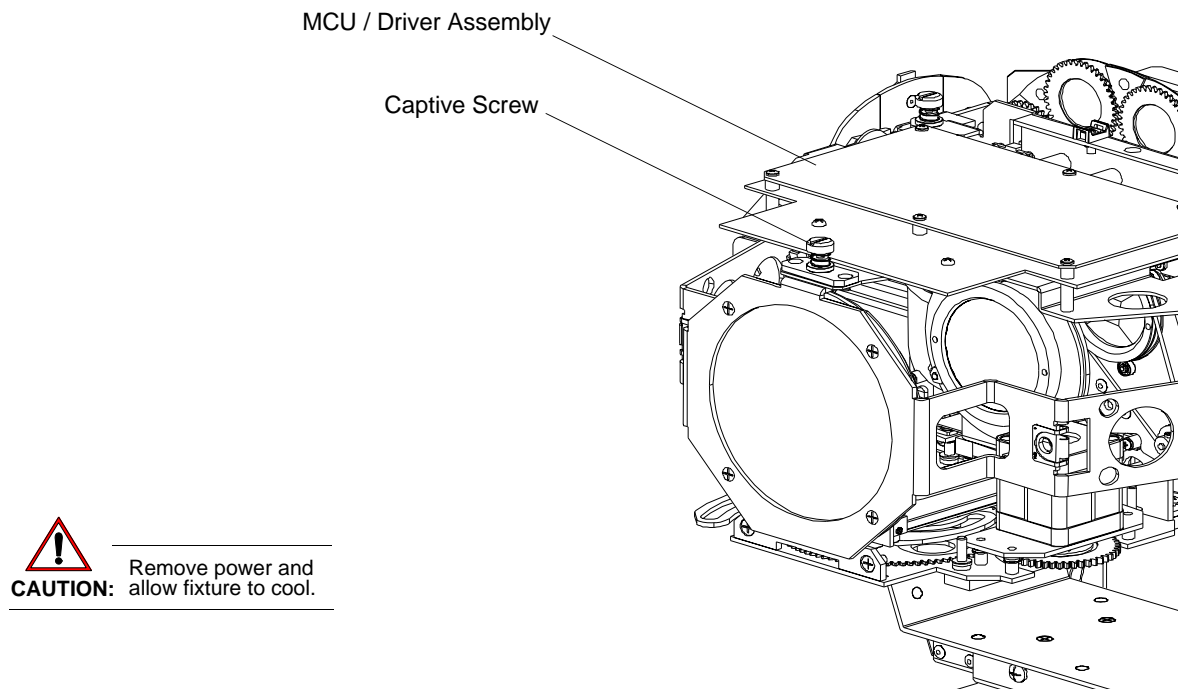

Figure 2-8: MCU Assembly Captive Screw
- Step 5. As indicated in Figure 2-8, loosen captive screw and carefully tilt MCU/Driver Board assembly open.